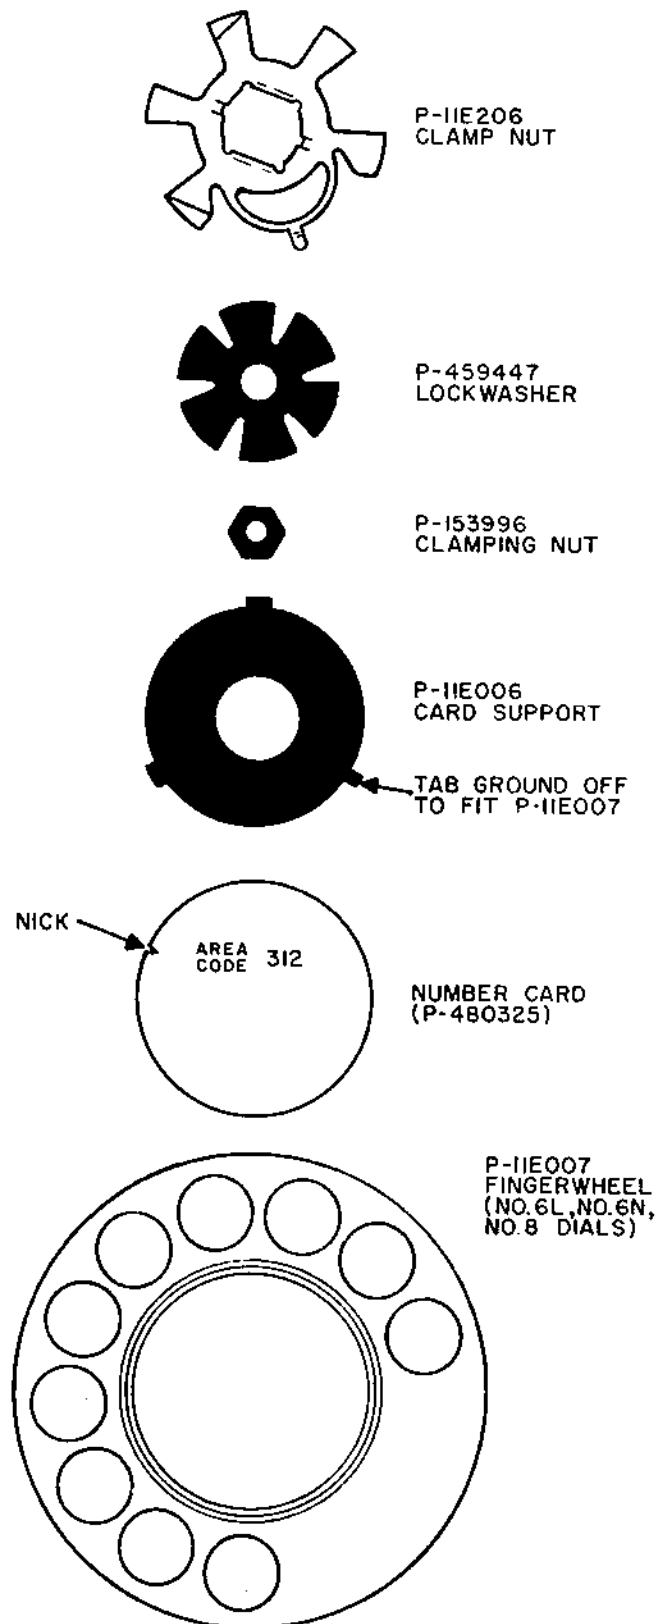

Figure 8. WECo Acrylic or Polycarbonate Fingerwheel Assembly with Integrally-Molded Window.
3.08 The WECO P-11E007 fingerwheel, molded from clear acrylic or polycarbonate, is similar to the P-19B524 but is not interchangeable with it because of a difference in the installed height above the number plate. In place of the center hole is an integrally-molded window, from which the surface sweeps to the edge in a smooth, gently convex line. When used on the Number 6L dial, five additional parts are required for mounting and identification (Figure 8). Since a combined clamp plate and card retainer forms part of the shaft assembly on the Number 8 dial, no additional parts are required for mounting, and only a number card for identification.